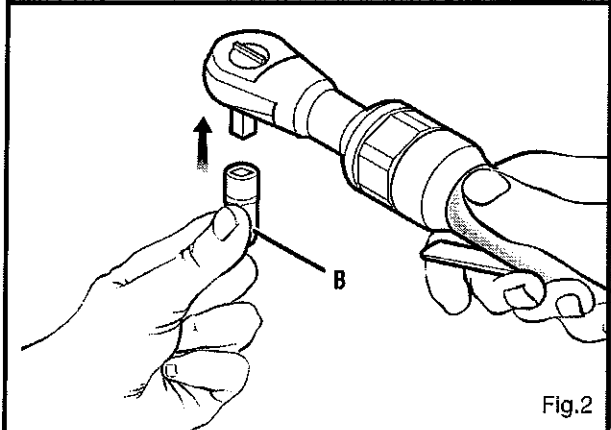

Fig.2
- 2) The ratchet wrench is provided with a 3/8" - 1/2" adapter (B) that accepts the 1/2" sockets included in the kit (Fig. 2).